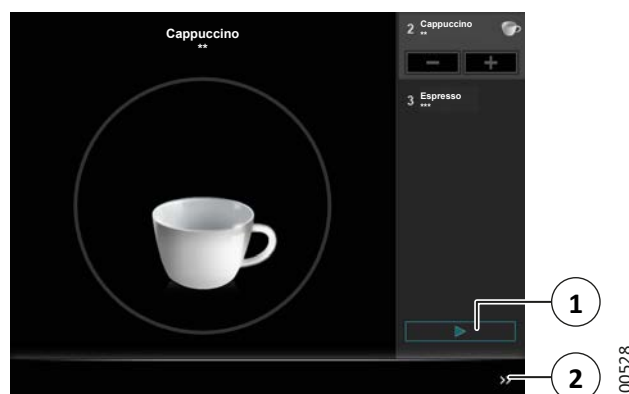

Fig. 26: Dispensed product in batch mode
- Once a product has been dispensed from the batch, close and open the batch with the symbol in the bar (2) (see Fig. 26).
- While the product is being dispensed, press the “Pre-set batch input” button (2).